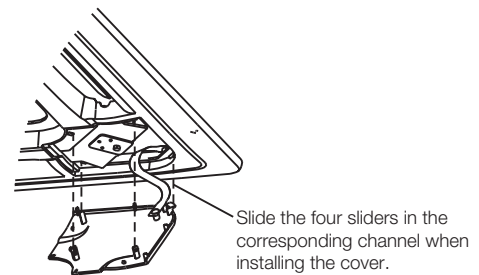

Fig.4-21
- 2) Press the installation cover into the panel slightly. (Refer to fig.4-21)